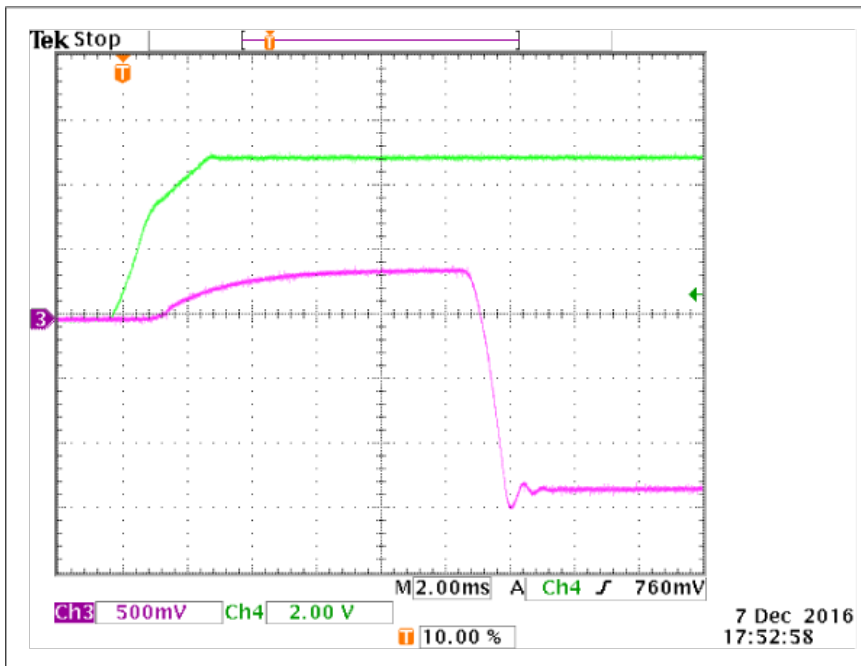

Figure 4. Startup sequence obtaining correct voltage rails. Ch3 = AVSS (TP14), Ch4 = AVDD (TP11)
3. The best solution is to replace R31 with a 750Ω resistor. Replacing the resistor obtains the correct voltage rails ~14ms after applying supply power to the board. **Figure 4** displays the scope capture of the startup sequence using a 770Ω resistor. R31's small package can make it difficult to replace without damaging the board. Placing the 750Ω resistor in parallel with the original 100kΩ resistor yields the same result. There are several places on the board to insert the additional resistor. The easiest place to insert the resistor is between J6.2 and J6.3 on the bottom-side of the PCB.